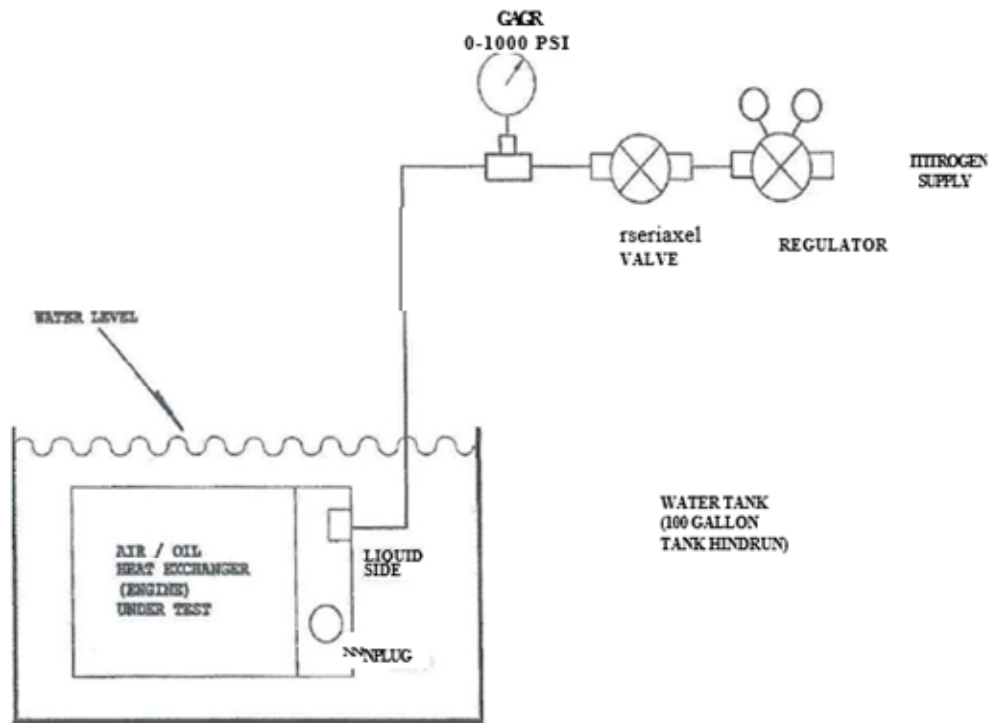

Figure 1: Air/Oil Heat Exchanger Leakage Test Schematic
- b. *Connect leakage test setup as shown in Figure 1. Check tightness of all clamps and fittings.*
- d. *Slowly increase pressure to 535 +10/-0 psig (3688.70 +68.95/-0 kPa) and hold pressure for a period of two (2) minutes. During two (2) minute period, heat exchanger must not show any signs of leakage.*
- e. *After two (2) minute period, reduce pressure to zero. Disconnect test setup and remove heat exchanger.*